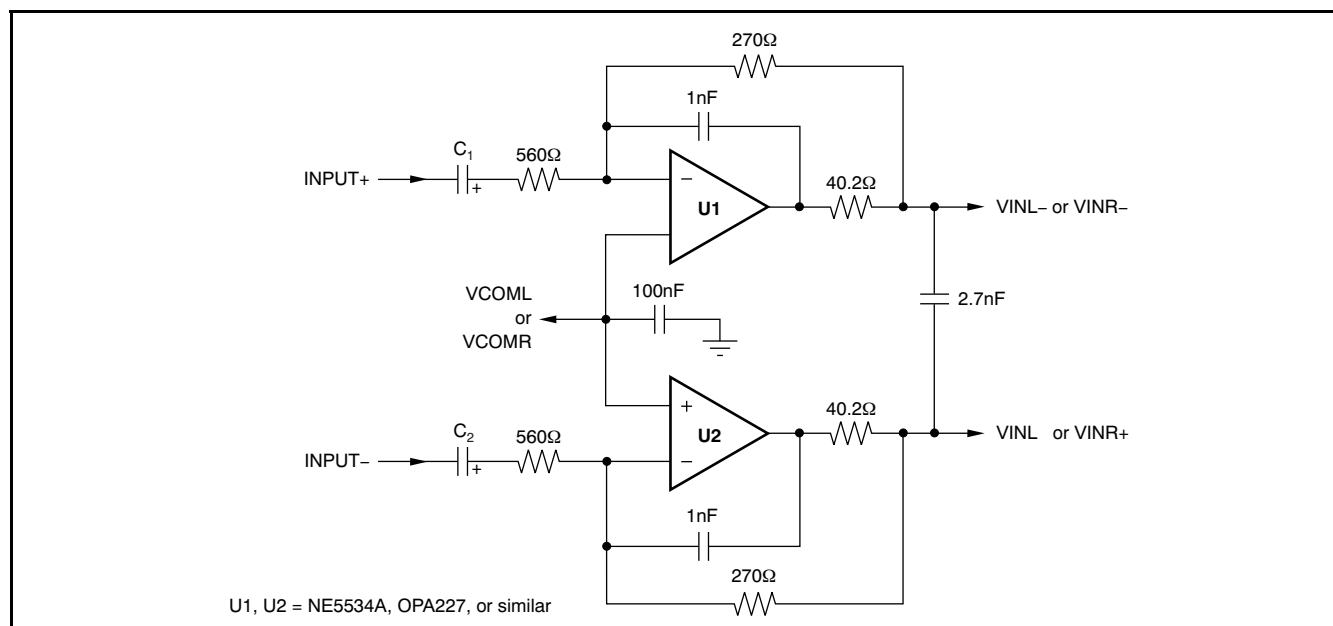

### Figure 50. Differential Input Buffer Circuit Utilizing the OPA1632
Figure 50 illustrates the input buffer/filter circuit utilized on the PCM4222EVM evaluation module. This circuit has been optimized for measurement purposes, so that it does not degrade the dynamic characteristics of the PCM4222. The resistors are primarily 0.1% metal film. The 40.2Ω resistor is 1% tolerance thick film. The 1nF and 2.7nF capacitors may be either PPS film or C0G ceramic capacitors; both types perform with equivalent results in this application. Surface-mount devices are utilized throughout because they provide superior performance when combined with a wideband amplifier such as the OPA1632. The DGN package version of the OPA1632 is utilized; this package includes a thermal pad on the bottom side. The thermal pad must be soldered to the PCB ground plane for heat sink and mechanical support purposes.
**Figure 51** demonstrates the same circuit topology of Figure 50, while using standard single or dual op amps. The noise level of this circuit is adequate for obtaining the typical A-weighted dynamic range performance for the PCM4222. However, unweighted performance may suffer, depending upon the op amp noise specifications. Near-typical THD+N can be achieved with this configuration, although this performance also depends on the op amps used for the application. The NE5534A and OPA227 (the lower cost 'A' version) are good candidates from a noise and distortion perspective, and are reasonably priced. More expensive lower-noise models, such as the OPA211, should also work well for this configuration. Feedback and input resistor values may be changed to alter circuit gain. However, it is recommended that all circuit changes be simulated and then tested on the bench using a working prototype to verify performance.
Figure 52 illustrates a differential input circuit that employs a noninverting architecture. The total noise and distortion is expected to be higher than that measured for Figure 50 and Figure 51. As with Figure 51, the NE5534A and OPA227 are good candidates for this circuit, although similar op amps should yield equivalent results.